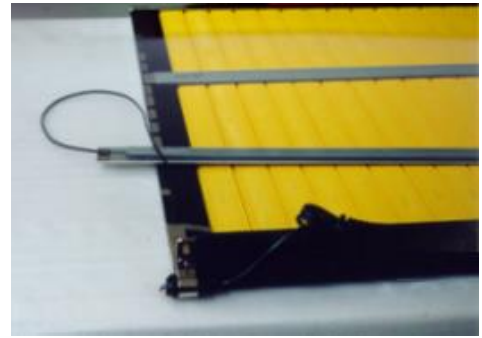

Figure 14 - Maintenance / Contact cleaning II
- Turn up contact system as per I Figure 14 / page 12).
- Remove complete plastic sheath (12).
- Remove fixing clip (17).
- Remove transparent polyester (16).